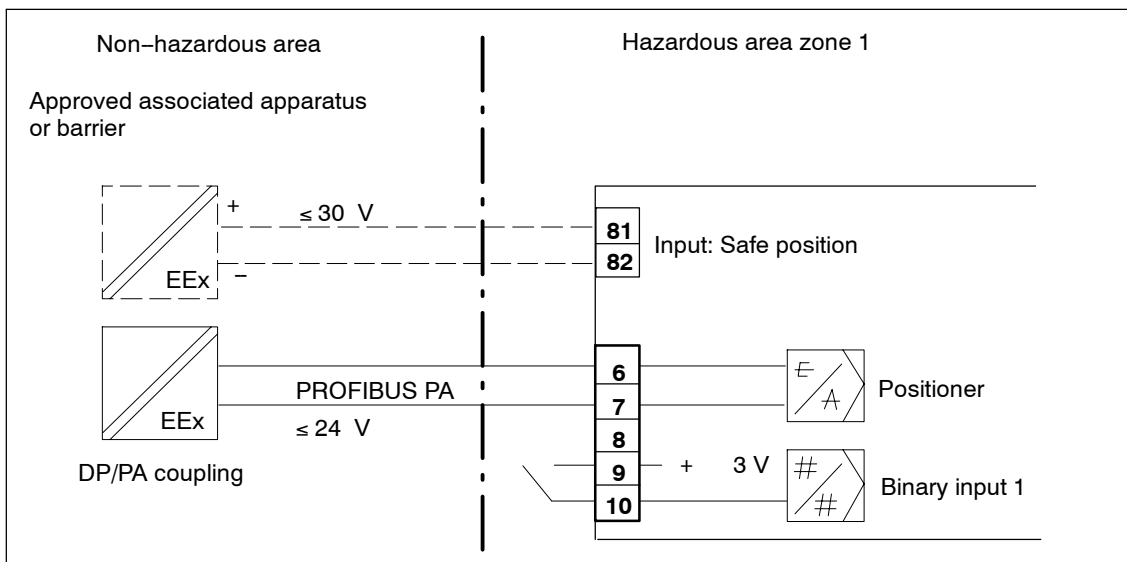
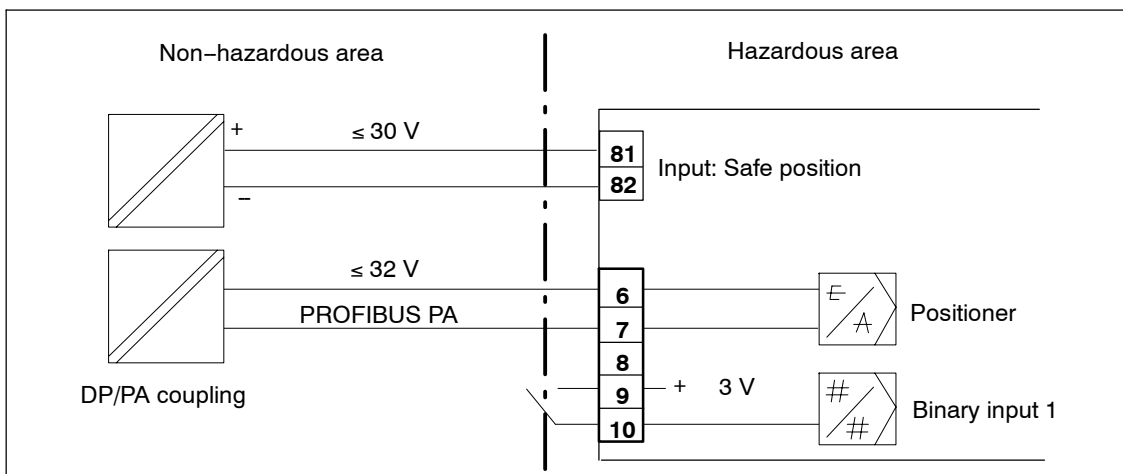

Figure 35 Electric connection of basic device with in intrinsically safe version
Figure 36 Electric connection for positioner in explosion proof version or in type of explosion protection "n" version
| <p>5. Tighten the cable gland.</p> <p>6. Connect the red and green wires as shown in figure 33, page 65 to terminals 3 and 7 of the motherboard (the polarity is immaterial).</p> | <p>5. Tighten the Ex-d-certified cable gland. *)</p> <p>6. Connect the red and green wires as shown in figure 35, page 66 to terminals 6 and 7 of the motherboard (the polarity is immaterial).</p> <p>*) if the Conduit Tube System is being used, refer to the relevant instructions.</p> |
4. Connect the positioner to the PROFIBUS line (figure 35, page 66 and figure 36, page 66).
5. The positioner is now in the operating mode "**P-manual operation**". The current potentiometer voltage (P) is displayed in percent in the top line of the display, e.g.: "**P12.3**", and "**NOINI**" flashes in the bottom line: